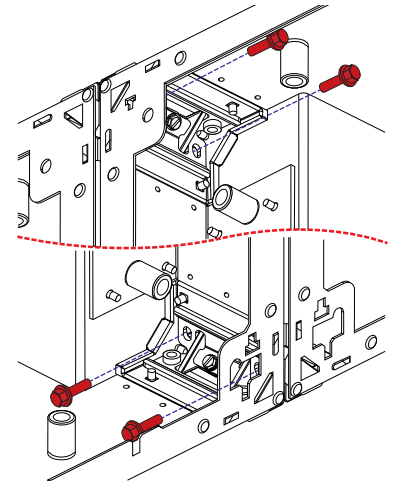

Figure 9: Installing Bolt through Corner Block
3. Install $\frac{1}{4}$ " bolts (located in the blue interconnect hardware bag) horizontally through all of the corner blocks in one cabinet and into the adjacent cabinet's corresponding corner block's nutsert (four per side). Refer to **Figure 9 on page 3**. Finger-tighten the bolts.